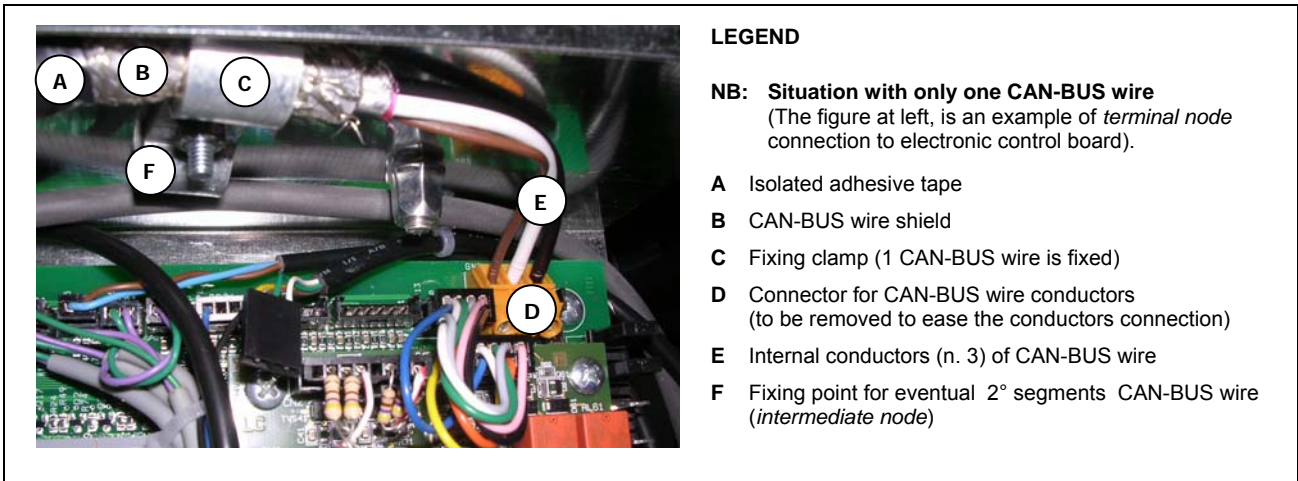
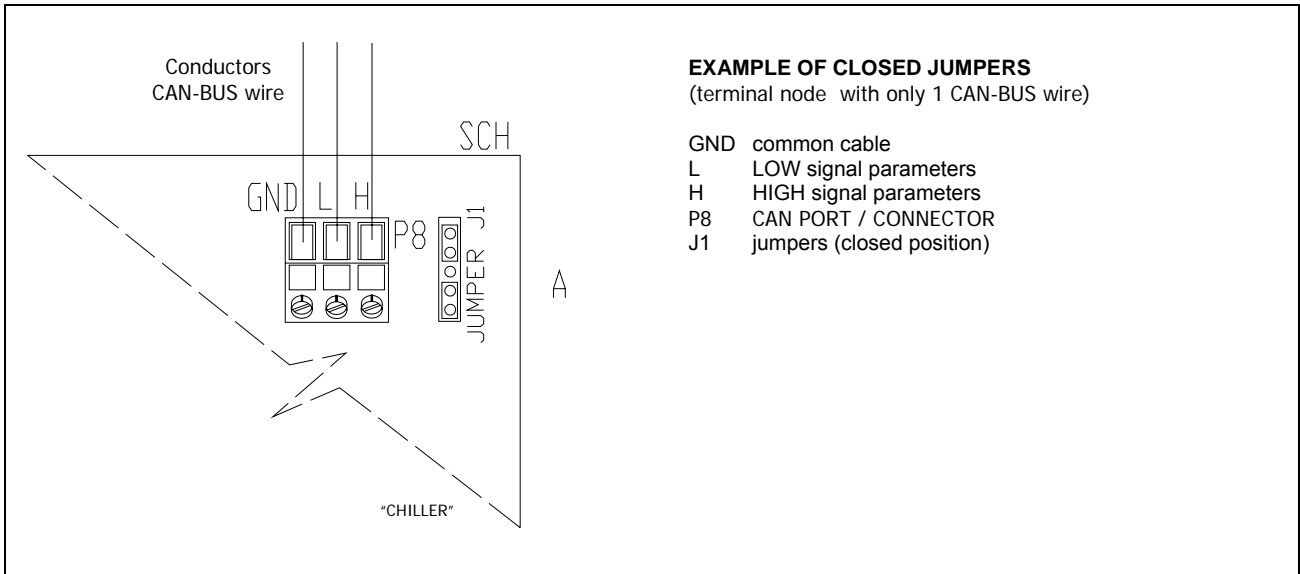

Figure 22 – EXAMPLE OF CAN-BUS CONNECTION TO ELECTRONIC CONTROL BOARD (EXAMPLE WITH ONLY ONE CAN-BUS WIRE)
Figure 23 – DETAILED EXAMPLE OF THE CONNECTION OF ONLY ONE CAN-BUS WIRE WITH THE ELECTRONIC CONTROL BOARD
1. Turn over the whole CAN-BUS shield (the aluminum part and the metal braiding) of the cut sheath part and fix it to the clamp (details B and C, Figure 22)
Isolate the whole shielded part of CAN-BUS wire after fixing clamp to avoid any contact between the shield and the electronic control board (Particular A, Figure 22).
2. Extract from the electronic control board the orange color connector from its CAN Port (placed in right top angle of ECB: particular D Figure 22) and proceed with the following instructions of point 3.
- 3a** Connect 3 conductors of CAN-BUS wire (particular E, Figure 22) respecting the signal/color indications as in Table 17, page 45 with 3 inlets H, L, GND of the same connector as in Figure 22 (see also details of Figure 23, page 47).
- 3b** Repeat the same procedure of point 1 when connecting the 2nd CAN-BUS wire segment by fixing the 2nd wire to the same clamp (particular F, Figure 22).
- 1st CASE: on the orange connector of CAN port, there are three conductors (terminal nodes): in this case, the 2 jumpers existing beside the orange connector of CAN Port should be adjusted as indicated in Figure 23, page 47 (detail J1).